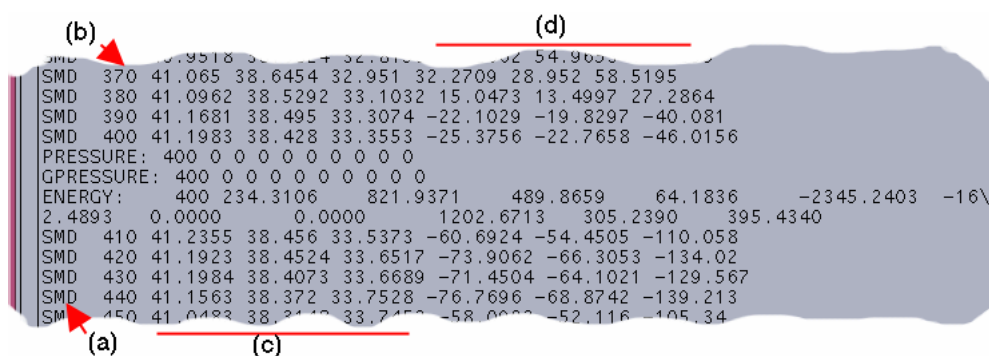

Figure 20: Typical output of a SMD simulation
- The additional output line starts with the word SMD in the first column as shown in Fig. 20 (a).